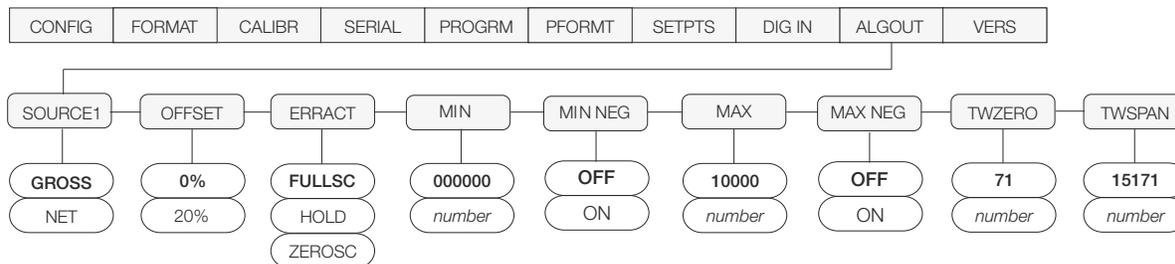

Figure 12-4. Analog Output Menu
- Enter setup mode and go to the ALGOUT menu (see Figure 12-4):